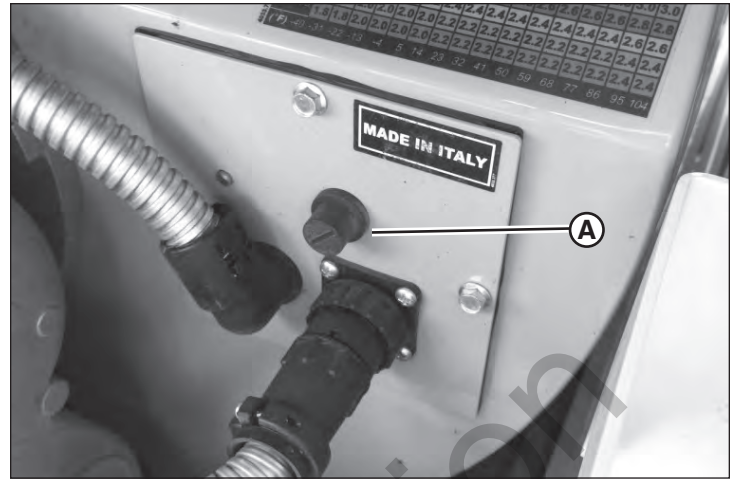

Figure 41
- Reset the heater unit. Unscrew the plastic cover (A, Figure 41) protecting the reset button on the back of the heater unit. Press and hold the reset button for about 5 seconds. Re-install the protective cover.